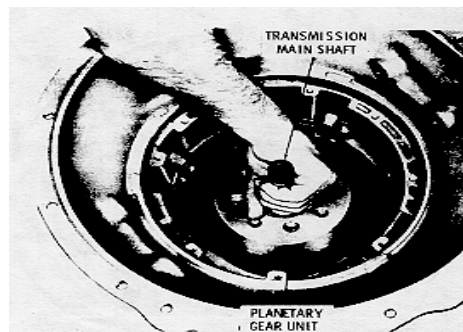

Fig. 5-16. Removing planetary gear unit
(1) Grasp the transmission main shaft, and lift the planetary gear unit out of the transmission case (fig. 5-16).